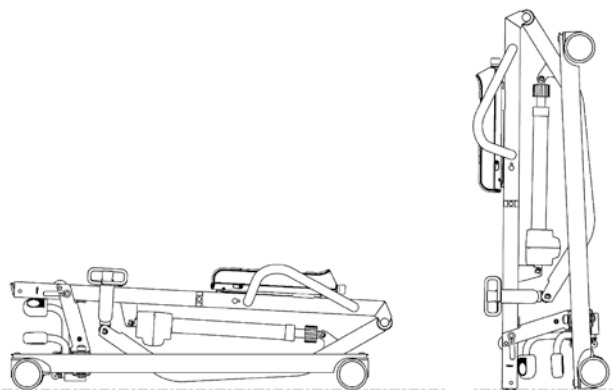

Fig. 24: Side view of patient lift tilted from folded to vertical position
3. Rotate the wheels to position them in line with the legs, so that they are aligned in the cut-outs in the legs (see figure 24).